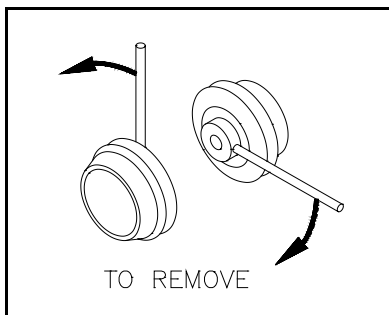

Figure 2.
3.2 Insert the pulley wrench (7/64" diameter rod) into the hole behind the pulley and turn the pulley counterclockwise (as you face the flat side of the pulley). See Figure 2. You will have to remove the pulley wrench and insert it into the opposite hole every half turn.
4.1 Start the pulley onto the threaded stud. Insert the pulley wrench (7/64" diameter rod) into the hole behind one pulley. Turn the pulley clockwise (as you face the flat side of the pulley). See Figure 2. You will have to remove the pulley wrench and insert it into the opposite hole every half turn.